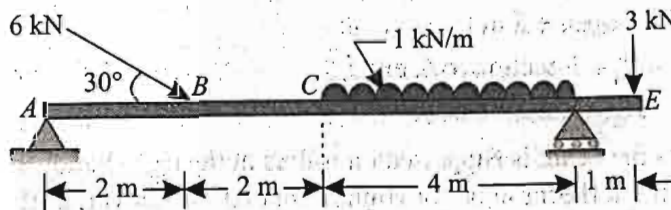

Fig. 9.16.
6. A beam $ABCDE$ hinged at A and supported on rollers at D , is loaded as shown in Fig. 9.16.